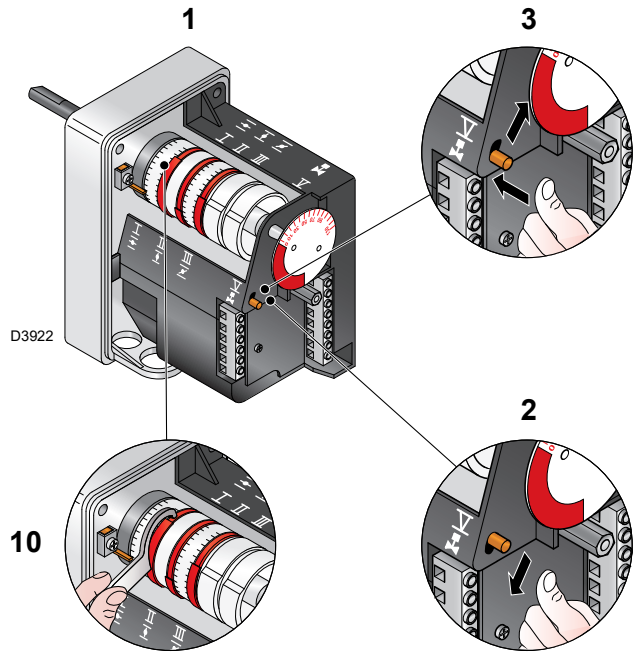

Fig. 28
- For any necessary adjustment of cam III, especially for small movements, use the specific key 10)(Fig. 28) held in place beneath the servomotor with the aid of a magnet.
Key (Fig. 28)